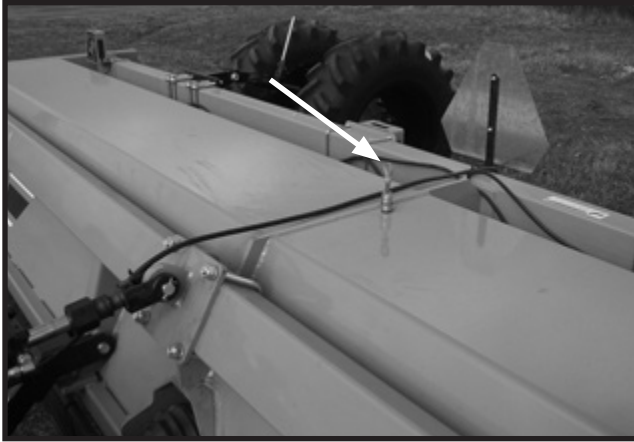

Figure 39. Dipstick Location
9. Add SAE 85W90 gear oil through the dip stick cover. Use the dip stick to check the oil level (Figure 39) and add oil accordingly.
2. Turn the turnbuckle to achieve the desired ratchet length (see Figure 39).